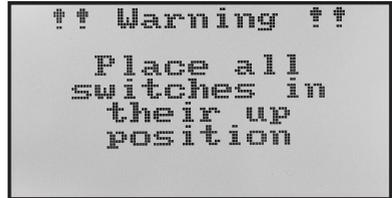

**Figure 10**
The operating display shown in figure 10 will only appear completely if the receiver system or quadcopter is in operation as well.
Switch on the remote control transmitter and check the correct function of the transmitter with the display. The trimming displays (see figure 10, items 5, 6, 8 and 10) must be in the middle position. If this is not the case, the trimming must be set (see the following chapter 11. g).
When the binding between the transmitter and receiver is correct, the display of the remote control shows the voltage supply of the receiver (see figure 10, item 4). Push the buttons „UP“ or „DOWN“ at the transmitter to get more information about the current reception of the GPS satellite.